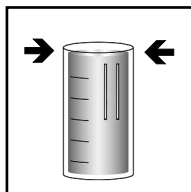

Figure 1
3. Fill the dilutor snapper cup to the -ml- mark with **distilled water**. Fig. 1